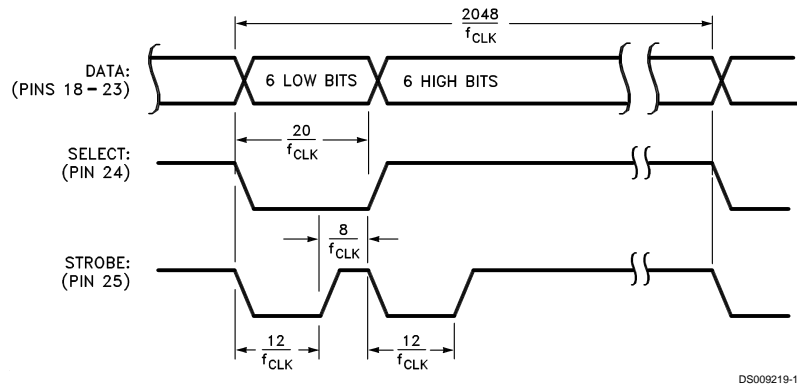

FIGURE 8. 12-Bit Multiplexed Output Timing
- LM628 (12-bit output mode): Outputs two, multiplexed 6-bit words. The less-significant word is output first. The MSB is on Pin 18 and the LSB is on Pin 23. Pin 24 is used to demultiplex the words; Pin 24 is low for the less-significant word. The positive-going edge of the signal on Pin 25 is used to strobe the output data. Figure 8 shows the timing of the multiplexed signals.